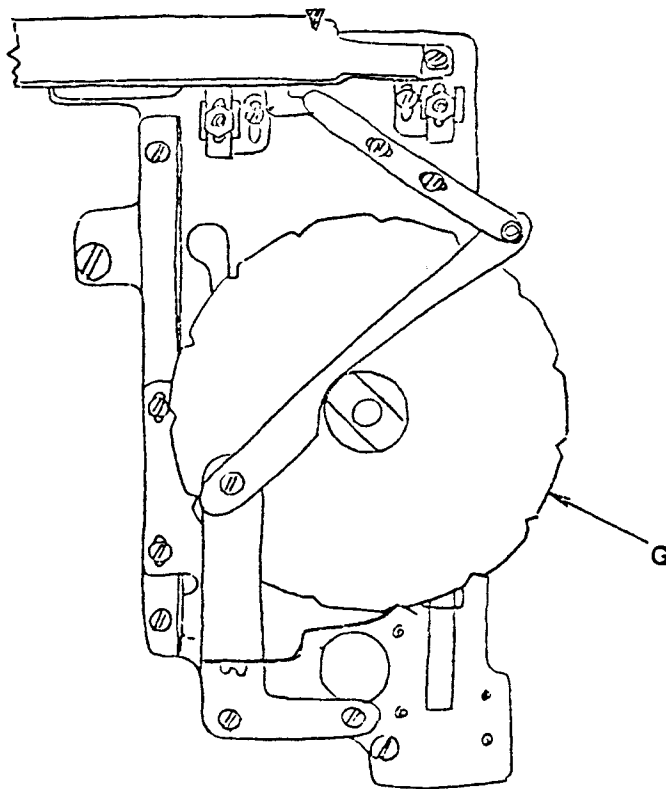

Fig. 44-2
8. Apply a small amount of grease to the pattern selection mechanism as indicated on Fig. 44-2, and lubricated other areas wherever necessary with a few drops of oil.